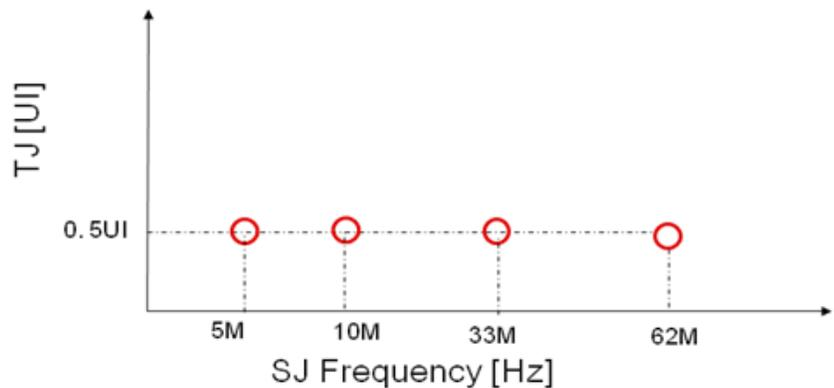

Figure 7. SJ requirements for SATA receiver compliance test
To comply with the SATA specification, the receiver has to tolerate the combination of stresses up to half of the Unit Interval (UI). SATA-I/O only requires the receiver test to be done over four different Sinusoidal Jitter (SJ) points - 5, 10, 33, and 62 MHz (Figure 7). These frequencies are chosen to stress the Phase Lock Loop (PLL) of the receiver.